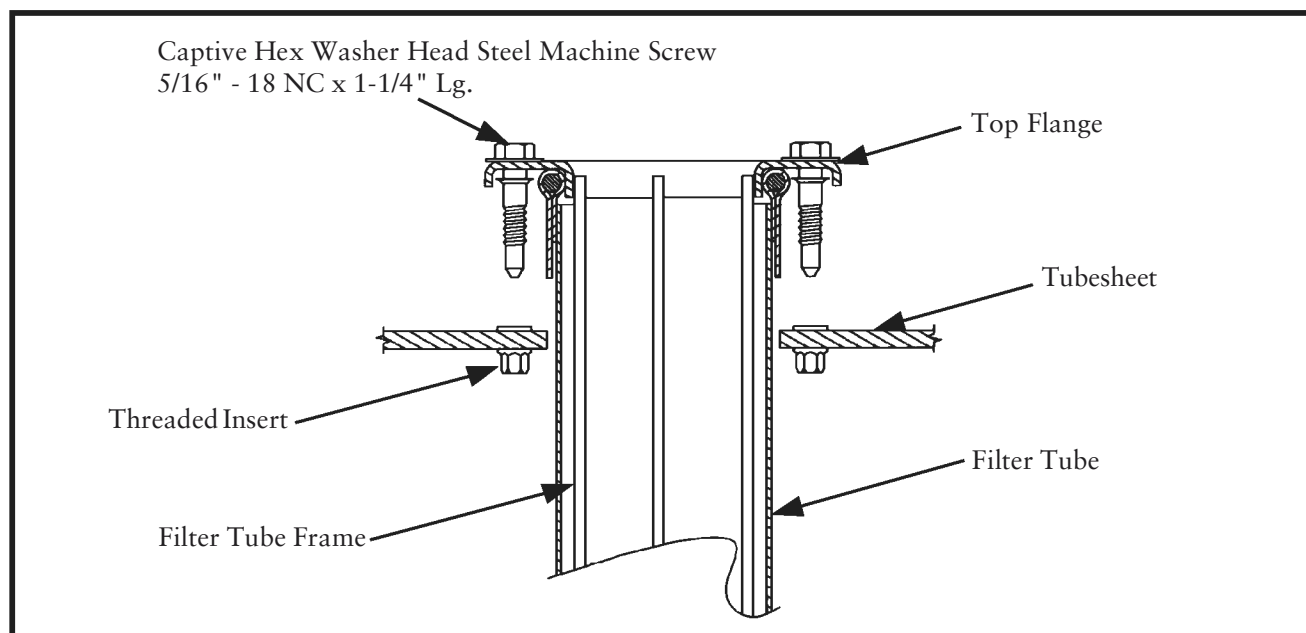

Figure 6
2.5.3 Filter Tube Installation (See Figure 6)
Installing the filters before the filter section is raised will be easier and save time. Install the filter tubes as shown in Figure 6, Filter Tube Installation. Slip the filter tube over the filter tube frame until it touches the top flange of the